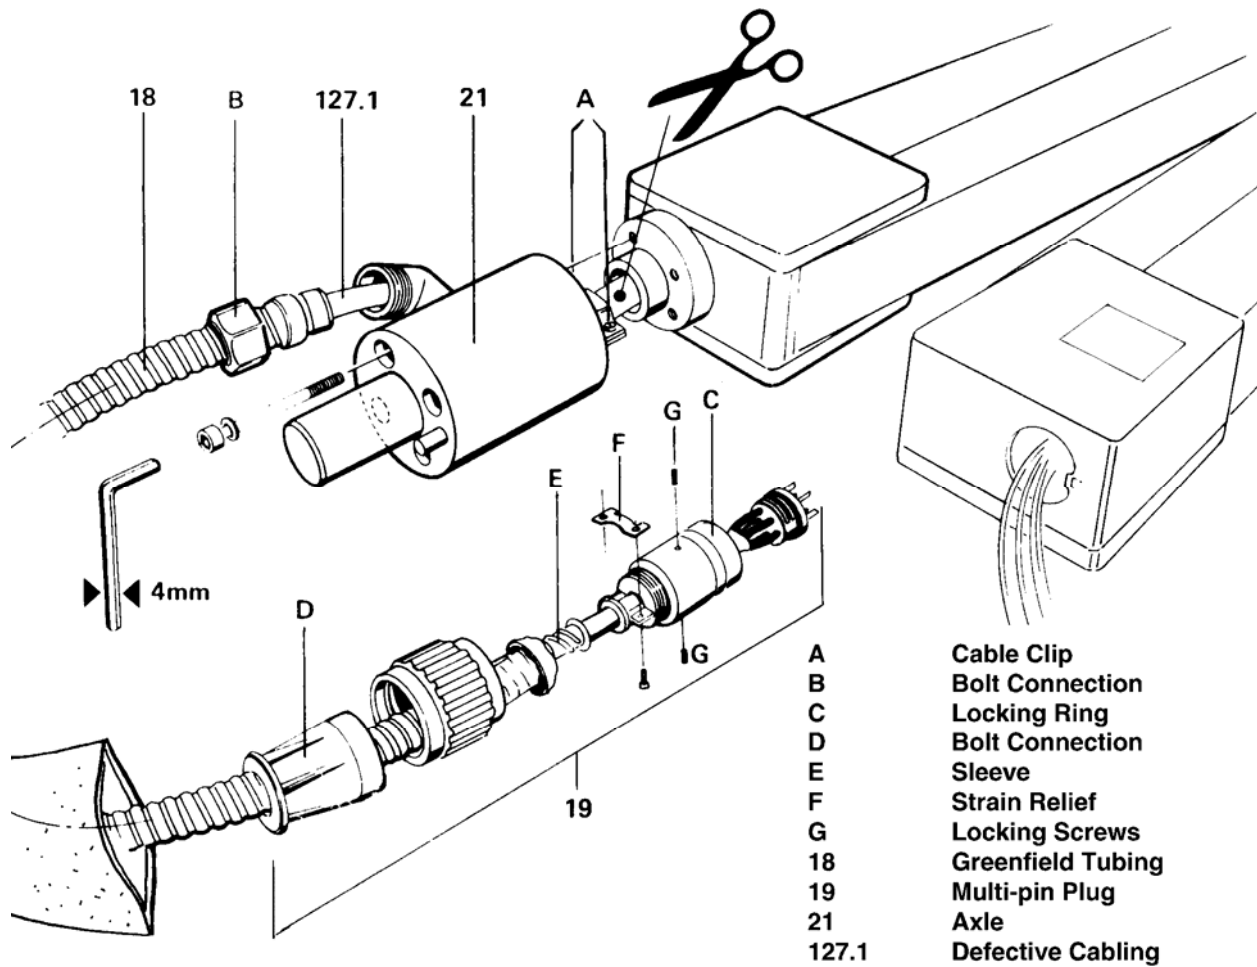

Figure 4-3. Scissors cabling arm fitting, part two.
(3) Prepare to remove cabling from scissors arm number one. Refer to figure 4-3 for the following steps.